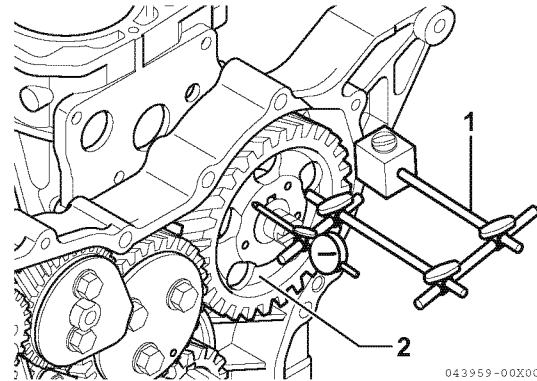

Figure 6-49
- **Method A:** Install a dial indicator (**Figure 6-49, (1)**) on the cylinder block. Move the camshaft (**Figure 6-49, (2)**) back and forth to measure the end play. Record the measurement. See *Camshaft* on page 6-7 for the service limit.